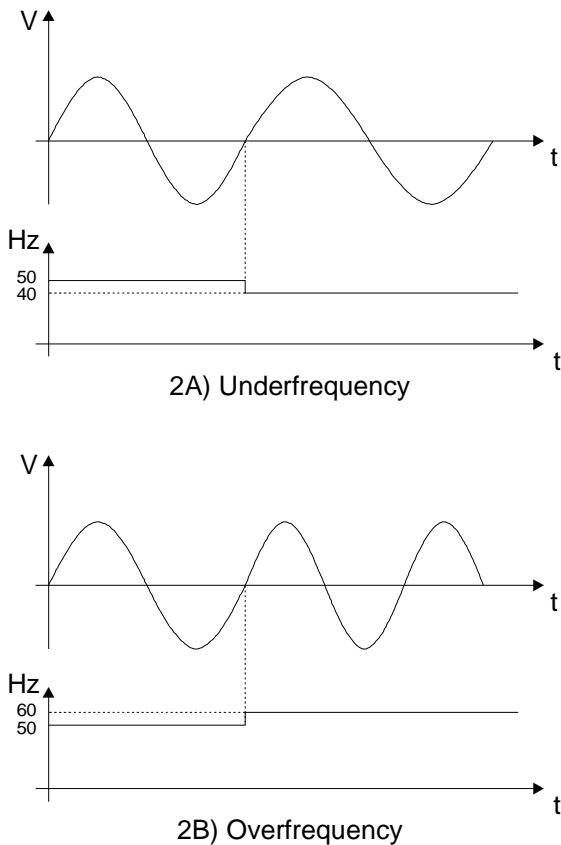

Figure 3 - Frequency relay test waveform
- . Switching from nominal frequency to fault frequency is performed without altering the output voltage (figure 3).